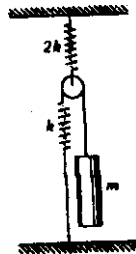

Fig. 7
4. Determine the natural frequency of vertical oscillation of the mass m , shown in Fig. 7. The mass of the pulley is neglected. (9)